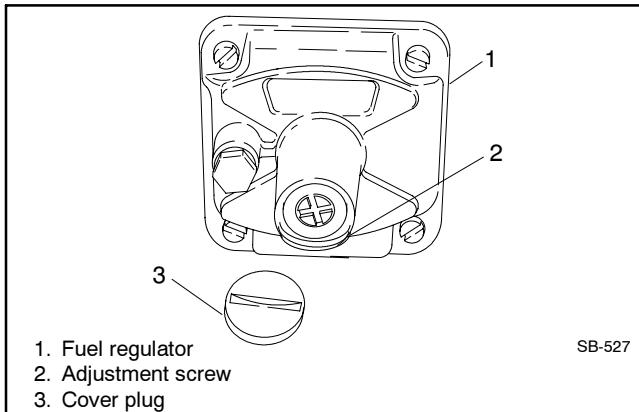

Figure 7-48 Fuel Regulator, Typical
- b. Adjust the fuel regulator adjustment screw to the approximate midpoint of its adjustment range. See Figure 7-48.